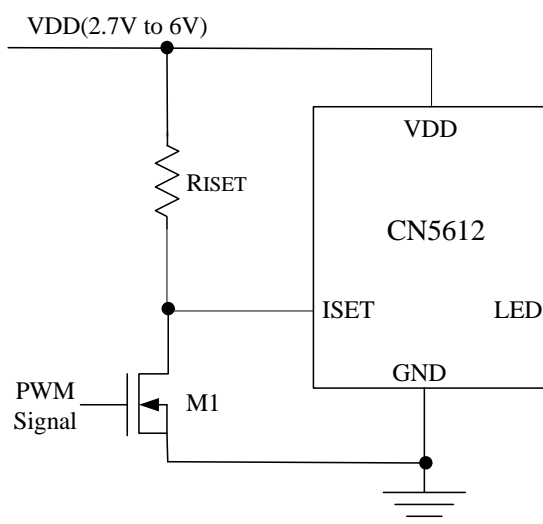

Figure 5 Dimming Control by Using PWM Signal
1. Using a PWM signal for dimming control as shown in Figure 5